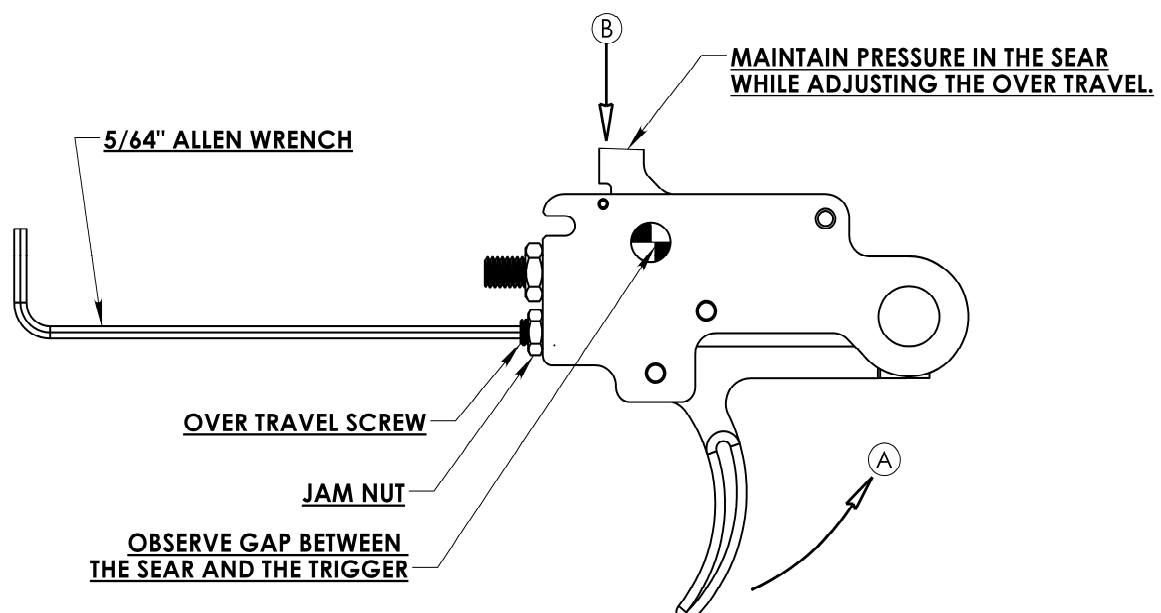

Figure 29. Resetting the over travel to the factory settings.
1. Loosen the 1/4" brass jam nut. Insert a 5/64" allen wrench into the over travel screw. Look through the hole in the side of the trigger housing and pull the trigger and press down on the sear. Turn the over travel screw counter clockwise and observe the trigger moving away from the sear. Turn the screw clockwise until it locks up the trigger against the sear. Turn the over travel screw counter clockwise one quarter of a turn and lock into place by turning the brass jam nut clockwise until it is tight against the trigger housing. (Figure 29) Test the setting by pulling the trigger and depressing the sear. Release the trigger. Slowly release the sear and ensure the trigger has enough clearance to reset.